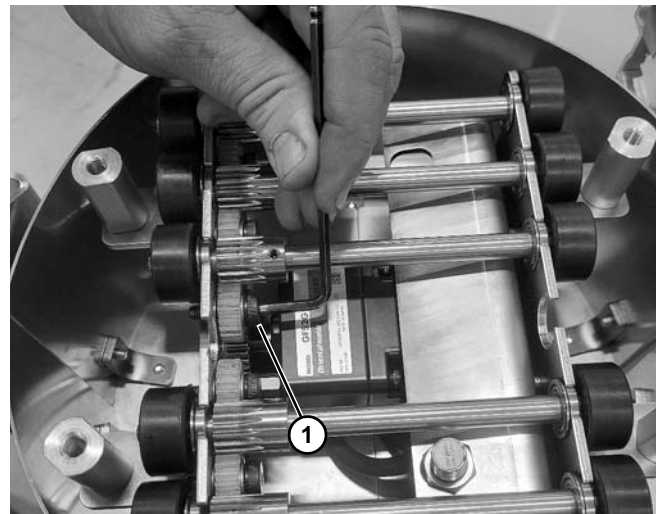
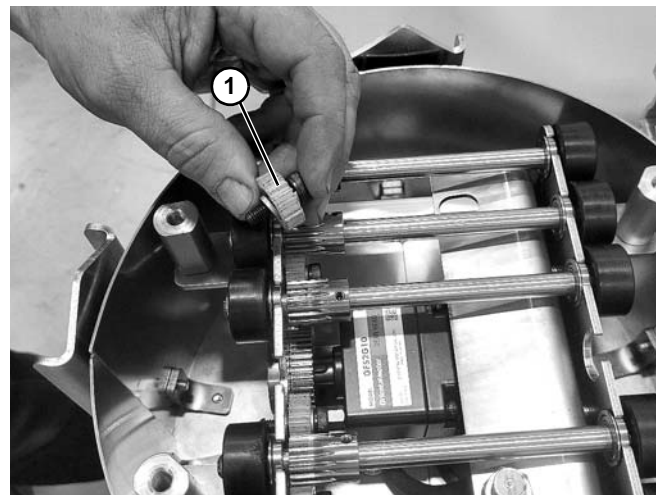

Figure 142
Figure 143
9. Remove screw (Figure 142, item 1) to remove idler gear assembly (Figure 143, item 1).